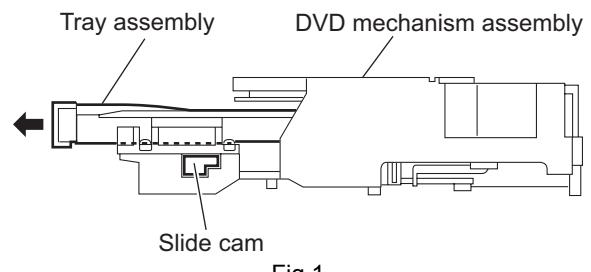

Fig.1
(See Figs.1 to 3)
- From the right side of the DVD mechanism assembly, push the slide cam and pull the tray assembly out of the DVD mechanism assembly in the direction of the arrow. (See Fig.1.)